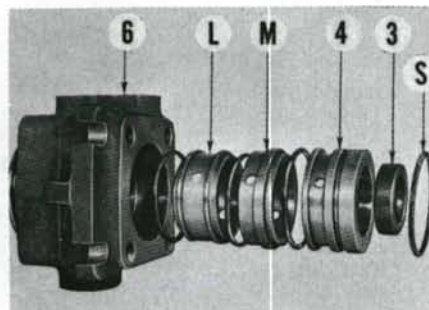

Fig. 13-Control valve housing partially disassembled, showing location of bushing sleeves and "O" ring seals.
all parts are under system pressure. "O" rings are located on piston guide peg (13-Fig. 9); also between bushing sleeves in control valve housing as shown in Fig. 13. Carefully push bushings out top end of housing. Seal (3) must be installed from underside (chamfered) end of bushing sleeve (4), using Special Tool SW 23/2 which applies pressure in groove between the two seal lips. Coat sealing "O" rings sparingly with a suitable lubricant and install carefully using Fig. 13 as a guide.